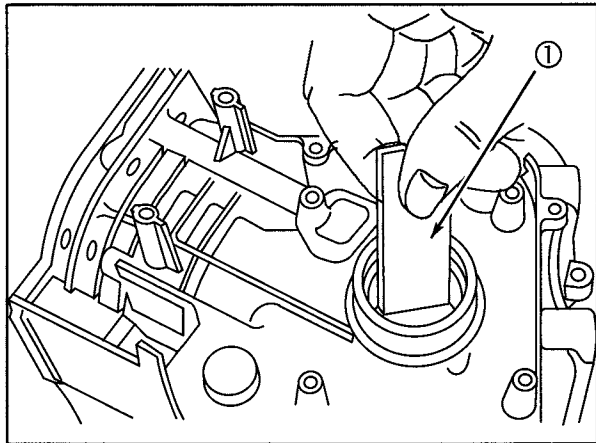

Fig. 5
1. Check magneto bearing for damage. Check for wear at several locations using plug gauge #19219 (1) or appropriate measuring tools, Fig. 5. If plug gauge is not available see reject dimension in Section 13.